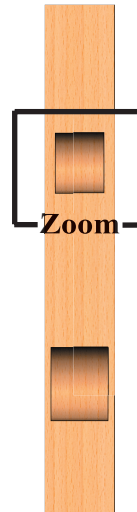

Fig. 15
Step 2. Use the **Zoom to Area**  in the View toolbar to drag a zoom window around the **front wheel cutout**, **Fig. 15**.